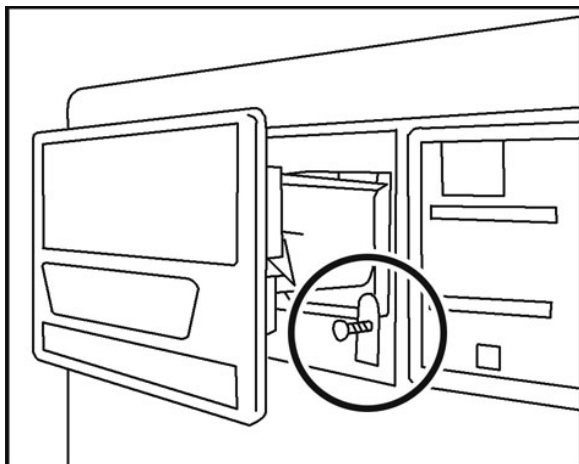

fig. 4
- Open the dispenser drawer and loosen the screws on the retaining tabs visible along the bottom (**fig. 4**).